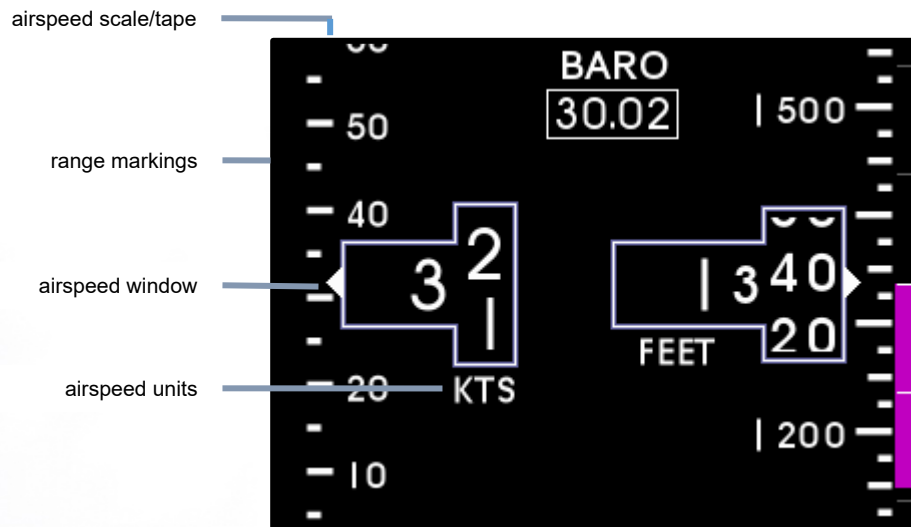

Figure 4.11
The altitude trend bar is located along the right margin of the altitude display. This feature is optional and can be turned on or off using the Options Menu (see Section 4.3.2). The trend bar is magenta in color and originates at the current altitude on the altitude tape (always from the middle of the display, directly across from the altitude pointer). The height of the trend bar, above or below the current altitude, indicates the altitude of the aircraft on the altitude tape if the current vertical speed or 'altitude trend' is maintained over a period of six (6) seconds. For example, in Figure 4.11, the current altitude is approximately 1,340 feet. The trend bar is at approximately 1,150 feet, indicating that the aircraft's altitude will be 1,150 feet in 6 seconds if the current vertical speed or climb is maintained constant. The length of the trend bar will increase with increased dive or climb rates and approach zero or disappear entirely as the vertical speed reaches zero in level flight.
The airspeed indicator portion of the display will always appear on the left side of the airspeed/altitude display. (Figure 4.11)